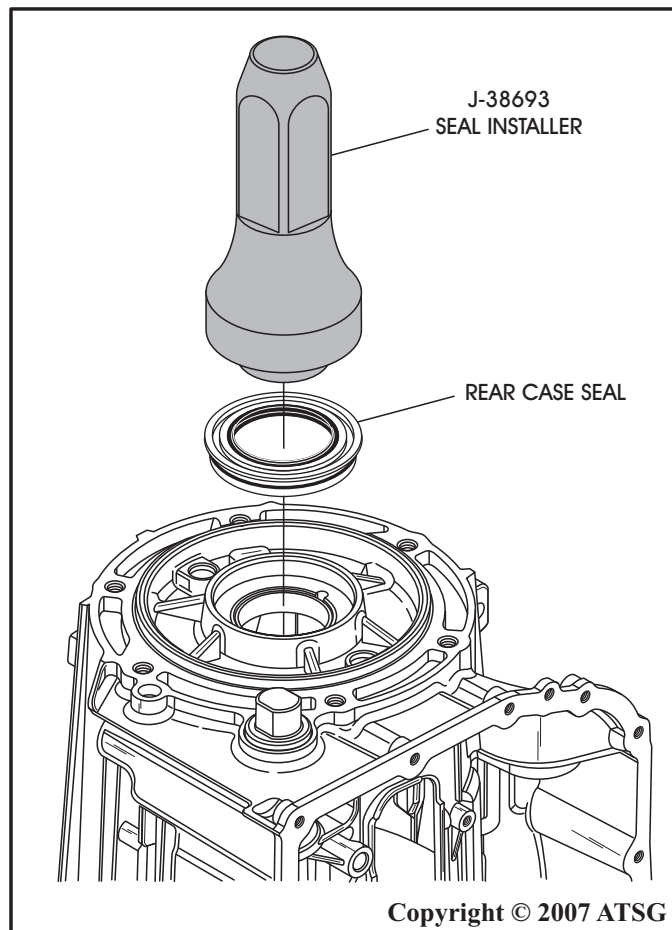

Figure 57
12. Install new rear case seal using seal installer, as shown in Figure 57.